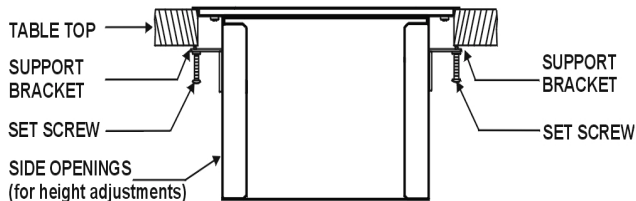

Figure 1: Attachment of the PNP400 to the table using support brackets and set screws
Step 3. Place the table support brackets under the table and place them between the grooves on the side of the **PNP400** unit. Place the brackets at the desired height and secure them to the bottom of the table using a setscrew. There are two support brackets, one for each side of the unit. (See Figure 1)